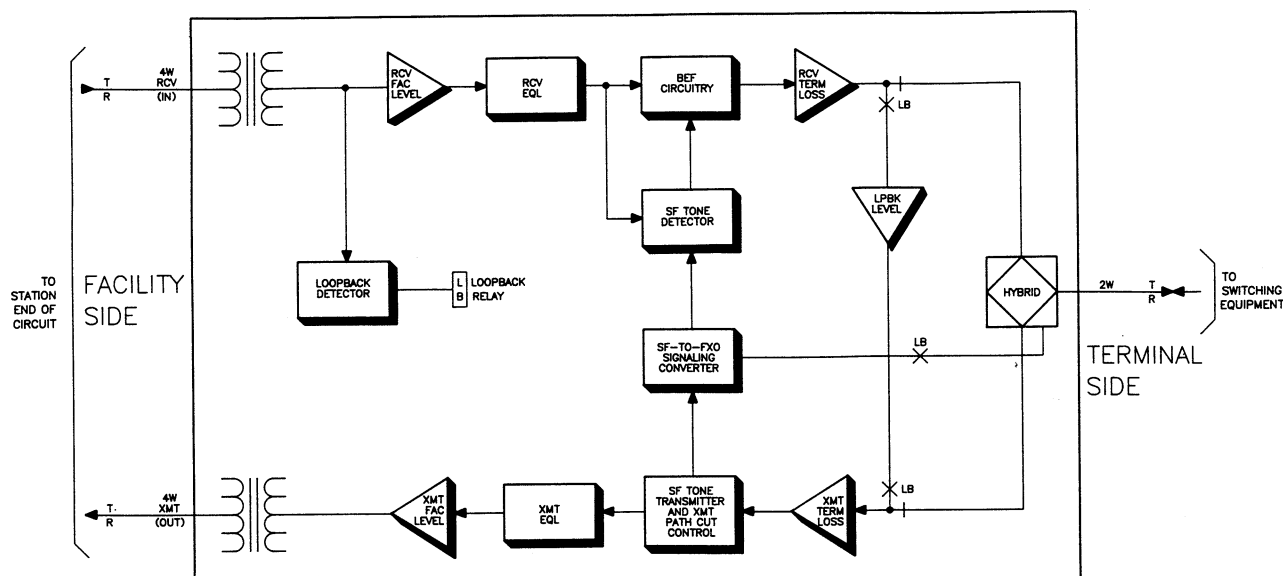

figure 7. Loopback route through 6124A
2.25 **Overview.** Integral facility-side transmission and signaling loopback circuitry in the 6124A allows local or remote testing of both the module and the facility. This loopback circuitry can be activated either manually (locally) or via 2713Hz tone (remote two-tone loopback). A prescription loopback-level-control circuit introduces from 0 to 23dB of loss or from 0 to 24dB of gain into the loopback path in switch-selectable 1dB increments to provide true equal-level transmission loopback. Figure 7 shows, in simplified form, the transmission and signaling loopback paths through the module.